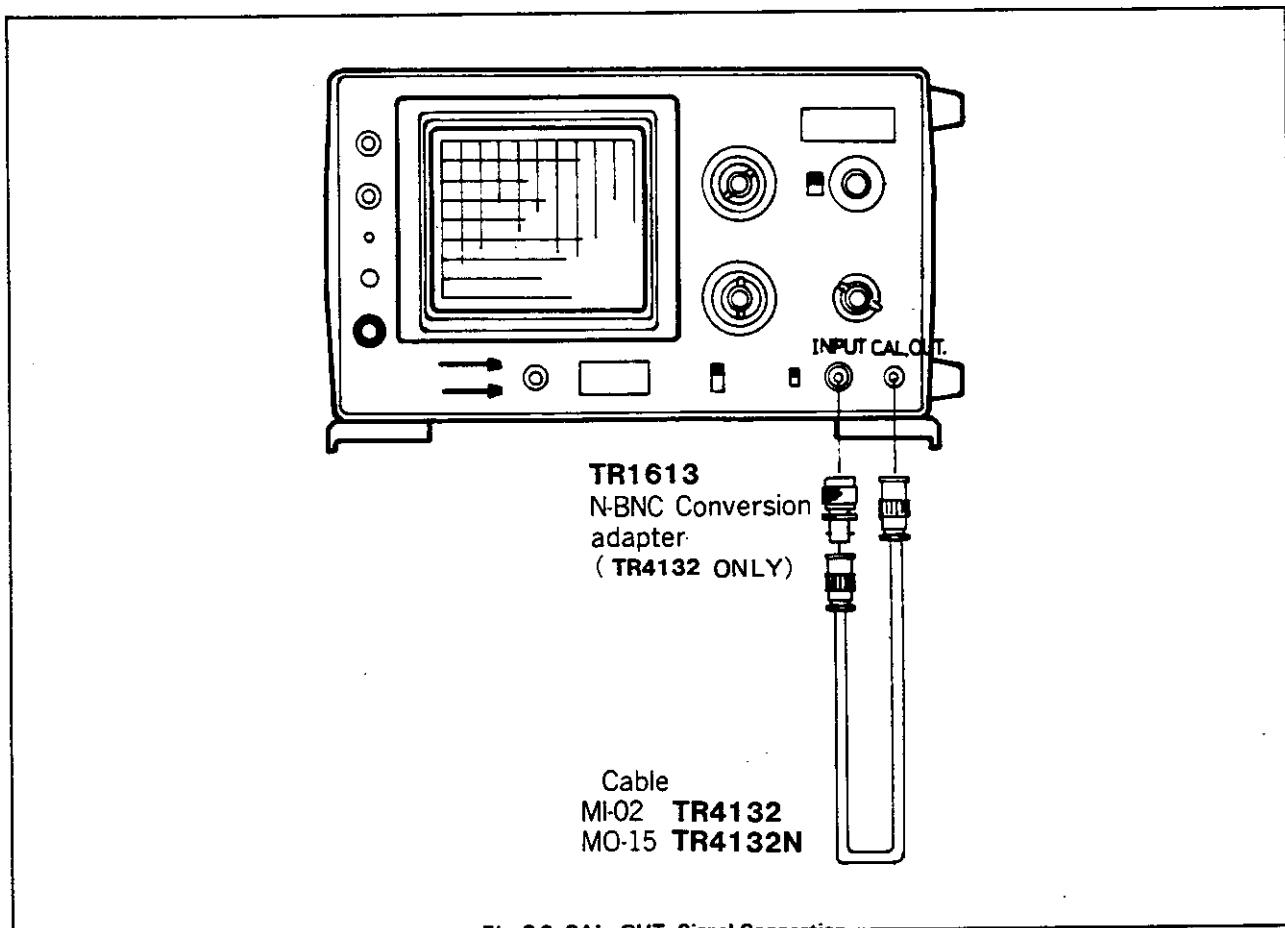

Fig. 3-2 CAL. OUT. Signal Connection
- Input cable. Refer to Fig. 3-2 for the connection.